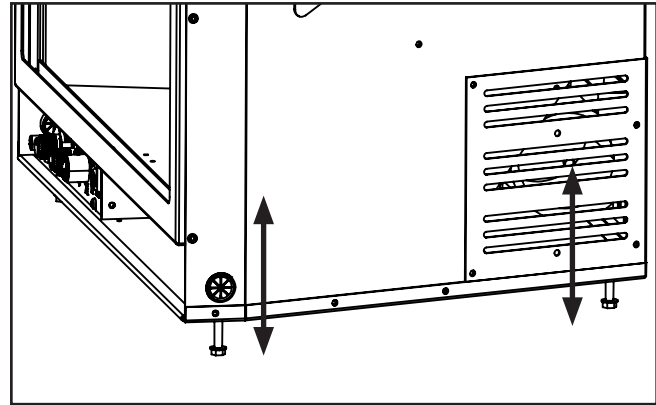

Figure 33: Levelling legs position.
15. Adjust the levelling legs to ensure the unit is level and high enough if a base shelf and/or riser is to be installed. There are four levelling legs on the bottom of the unit (shown in Figure 33).